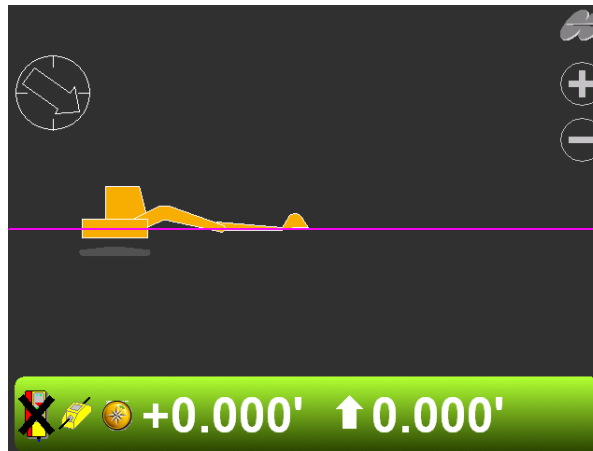

Figure 62: Compass Now Active
- Once set, a symbol for the compass appears in 3D-MC (Figure 62).
3. Position the bucket on the string at several points, and compare the elevation readings shown in 3D-MC; elevation readings should be zero for each position (Figure 62).